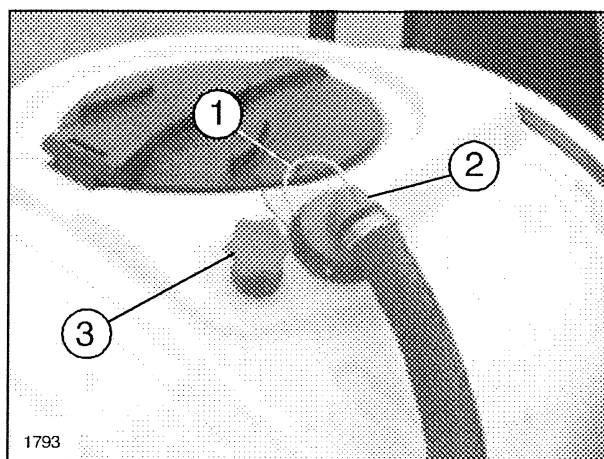

FIG. 6
**15. TANK DRAIN CONTROL:** Turn knob counterclockwise to open drain valve in bottom of tank. Turn clockwise to close valve. See FIG. 6.
**16. SUCTION STRAINER:** Remove fork in red elbow at top of the tank. Pull elbow out of filter housing. Remove the strainer. See FIG. 6.